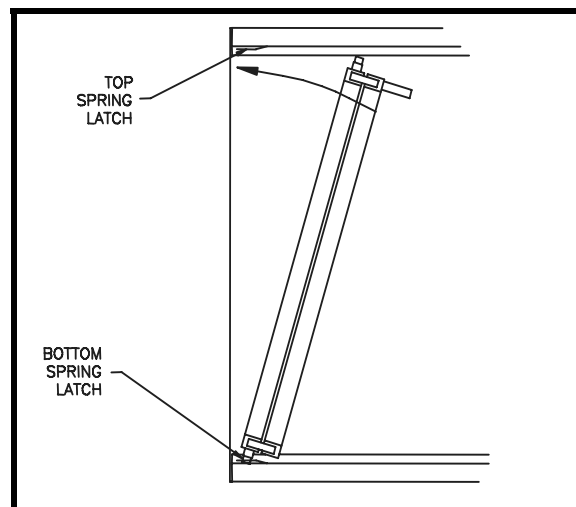

Figure 21: Glass Door Installation
4. Place bottom metal door pin in bottom spring latch then rotate top of door into top spring latch. Refer to Figure 21. Repeat step 3 for other door.